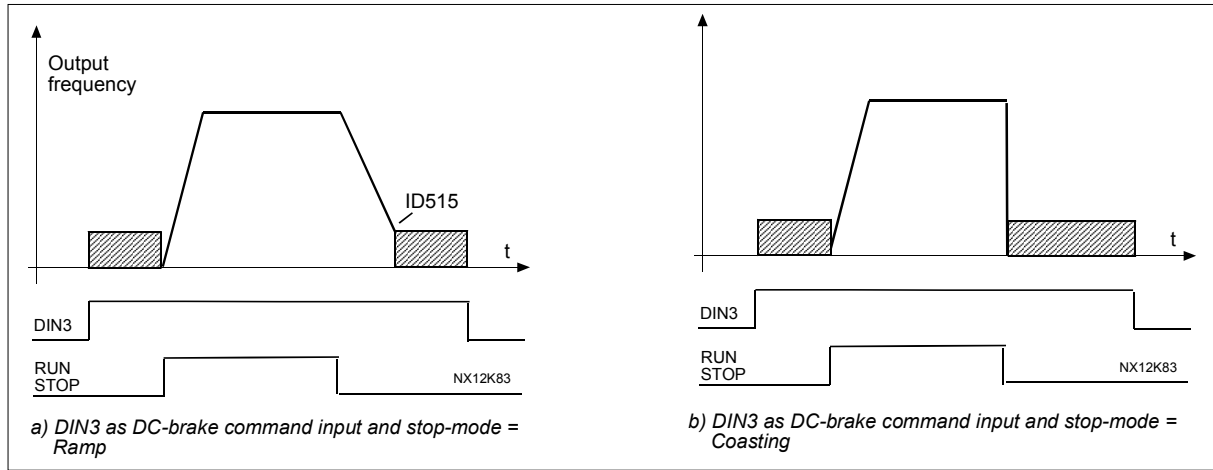

Figure 8-9. DIN3 as DC-brake command input: a) Stop mode = Ramp, b) Stop mode = coasting
- 12** DC-braking command contact closed = In Stop mode, the DC-braking operates until the contact is opened, see Figure 8-9